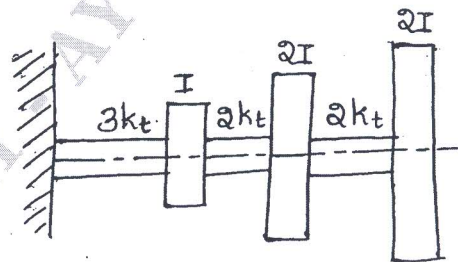

Fig Q8
- 8 Use Holzer's method to find the natural frequencies of the system shown in Fig Q8.